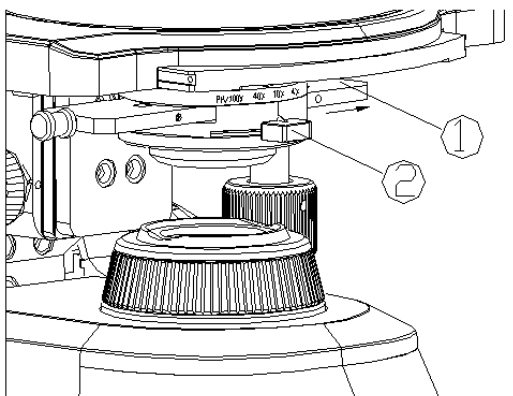

Fig. 20
Assembly and Operation of Phase Contrast Accessories (OPTIONAL) - (Fig. 20)
Keep the phase contrast slider① face up (the side with words should be oriented up), insert it from left to right into the condenser slider slot as the direction of the arrow pointed (see Fig. 20).